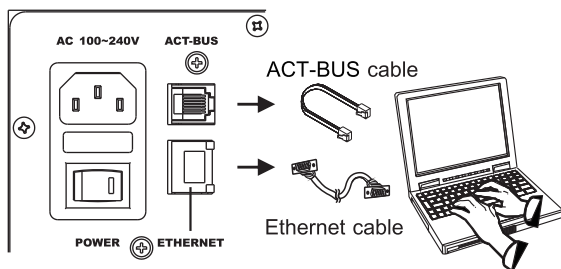

Fig. 26
X. MTG-100C-28 PC Software Installation & Management, Fig. 26